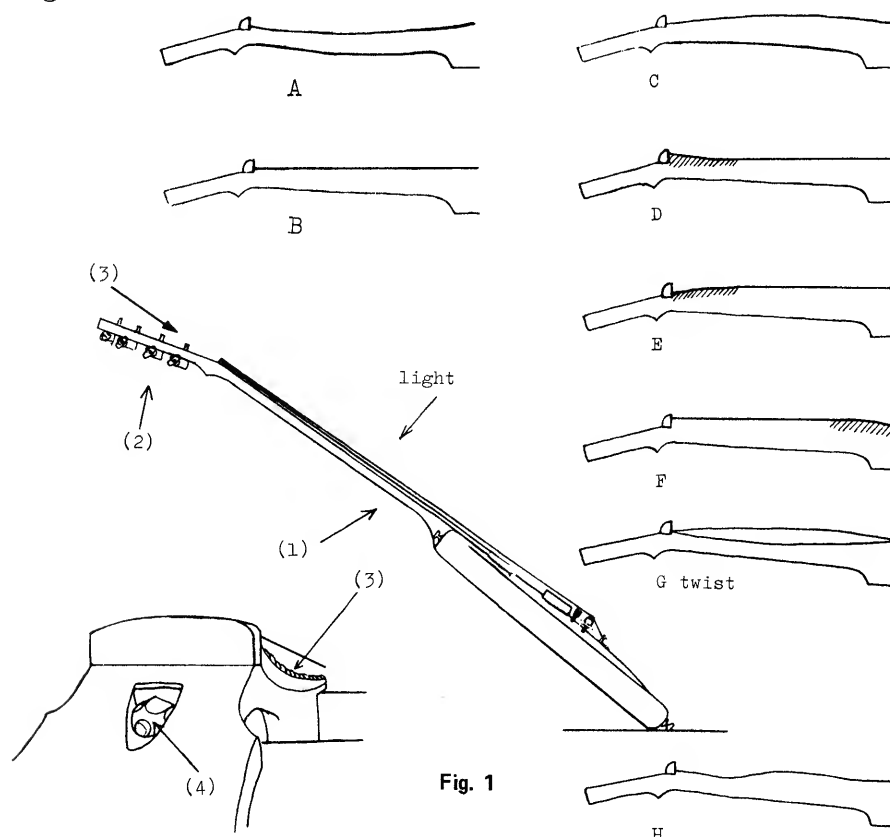

Fig. 1
- Checking Fingerboard and Neck for Cambered, Pulled, Twisted - see Fig. 1
View the curve of the fingerboard and neck across the top of the head from both edges alternately(3). With Bass guitar, neck of slight concave bend is considered ideal. Fig. 1,A.
B to H in Fig. 1 are as examples would occur. Of course any combinations of these examples might be found on the guitar.